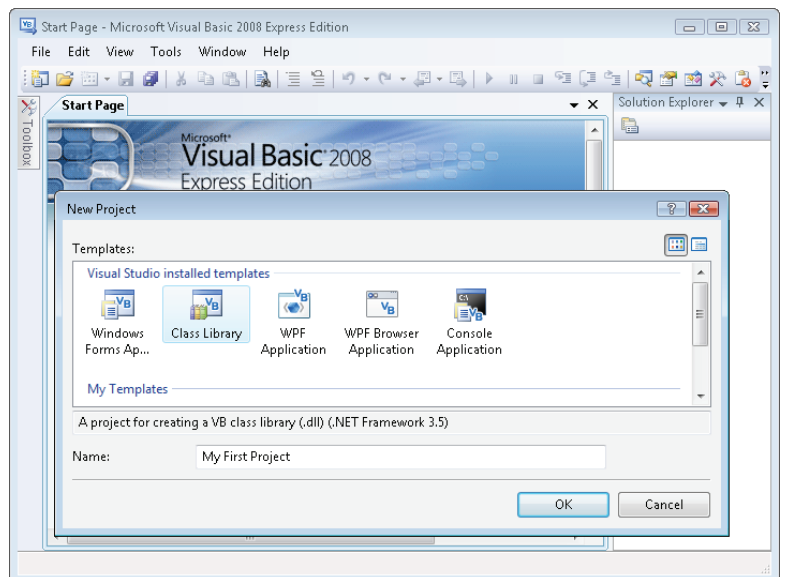

Figure 1: New Project dialog box
3. In the New Project dialog box (see Figure 1), select Class Library and enter a name for the new project in the Name text box. Click OK.